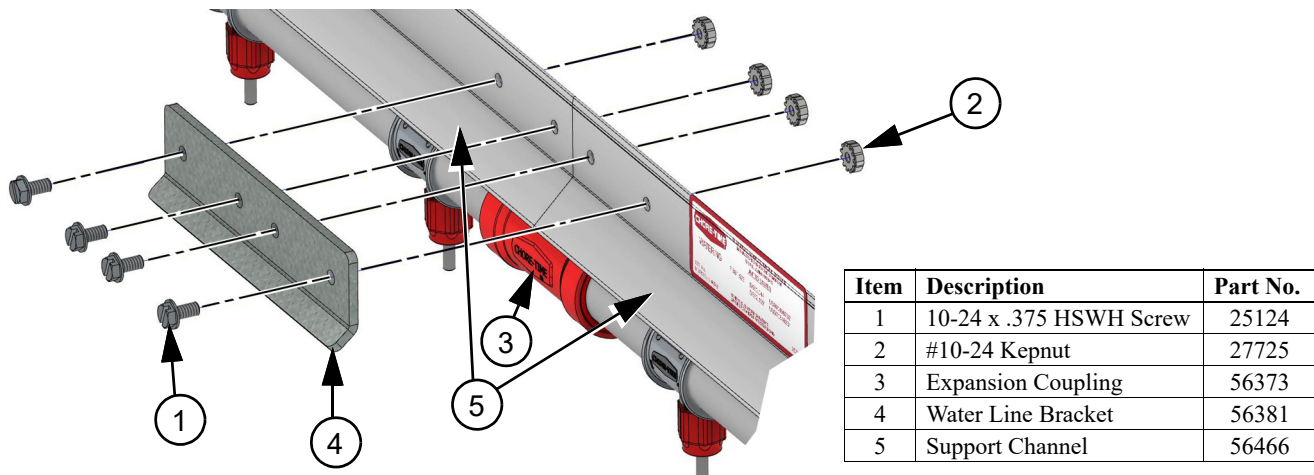

Figure 20. Securing the Water Line together
3. Install a Water Line Bracket (Item 4) with #10 hardware to fasten the Support Channels together. (See Figure 20). Torque until tight. Do Not exceed 30 in.lbs.